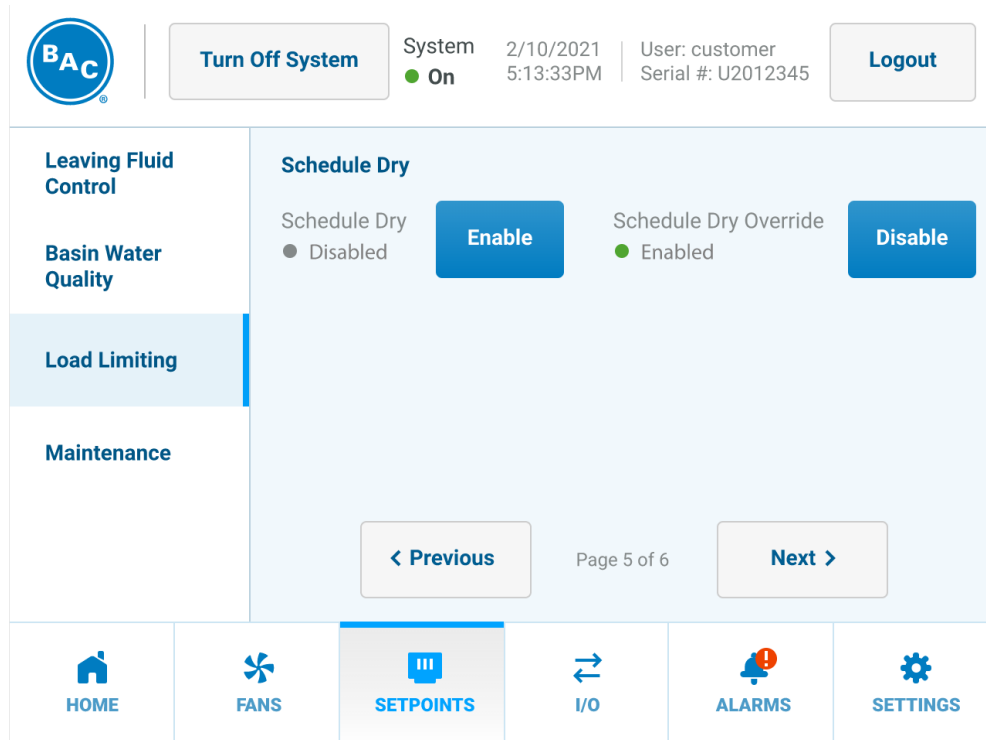

Figure 47. Setpoints Menu, Load Limiting Page 5 of 6
- Schedule Dry load limiting mode shown in **Figure 47** and **Figure 48** with parameters listed in **Table 16**.